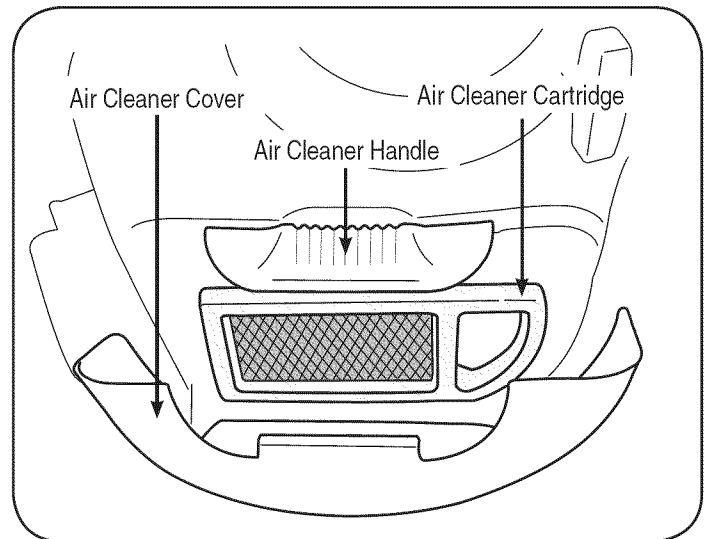

Figure 10
1. Pull up on air cleaner handle, Figure 10, and pull back towards the engine.
2. Remove the air cleaner cover, Figure 10.